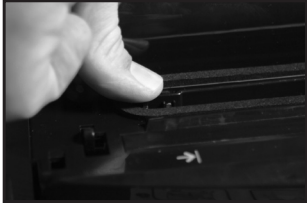

Fig. 8
This appliance has a Tray Full Indicator 2. When excess liquid fills the Drip Tray, the unit will turn off and the Tray Full Indicator light will activate. To resume normal operation, open Appliance Door (D), press two release buttons (K), rotate appliance away from you, and allow appliance to rest on the counter. Press tabs and lift to remove the Drip Tray, empty liquid, clean Drip Tray and replace in housing. When replacing drip tray, set the right end of the drip tray into place, then firmly snap both sides down (See Fig. 8). Appliance can be used without Drip Tray, however the Adjustable Food Sensor setting 6 will not function without the Drip Tray.